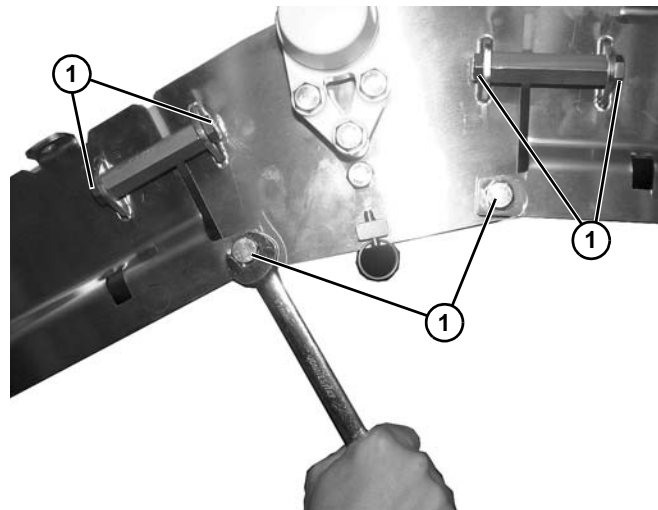

Figure 9
3. Tighten all screws (**Figure 9, item 1**) to 28-32 Nm (20-24 ft-lbs).